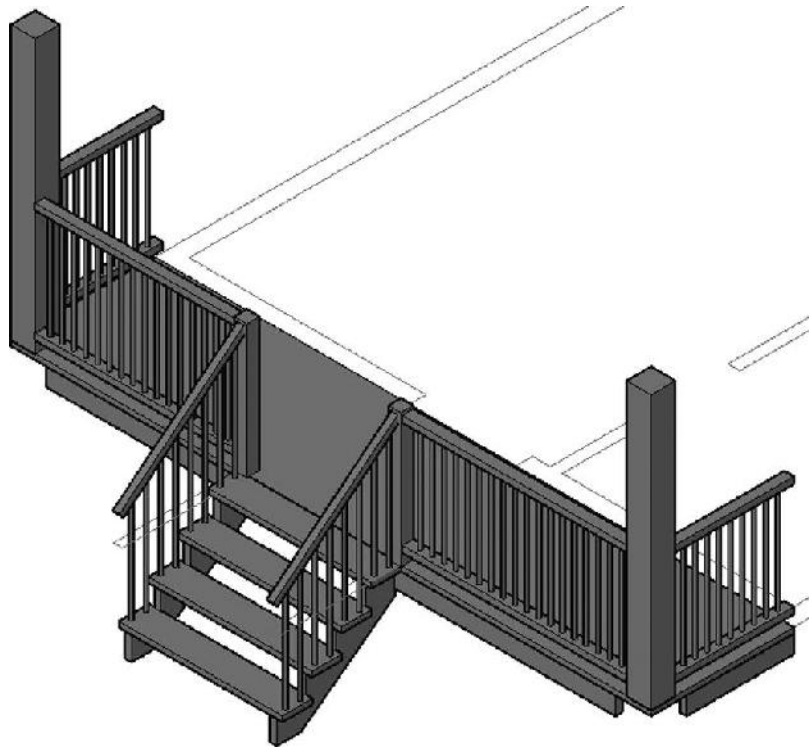

FIGURE 16.71: The completed back deck
22. Change to the Conceptual visual style, and drag the ViewCube to get a good look at the new deck. It should look like Figure 16.71.